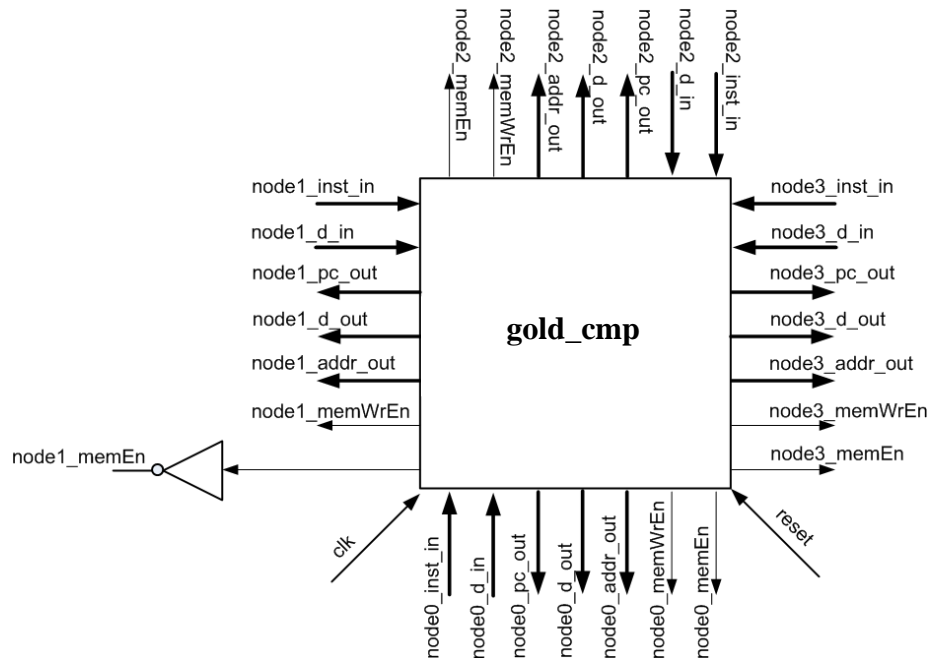

Figure 2: Erroneous Design for Logic Equivalence Verification
- (1) Perform an equivalence check between the RTL (.v) and gate level netlist (.syn.v). Use the final RTL and resulting netlist from the synthesis step. Follow the instructions in the tutorial for your multiprocessor design and save the result as "lec\_report1.txt". If you are unable to attain a positive equivalence result, describe the steps you took to debug your design. Create a file "lec\_report1\_summary.txt" that contains this description. If you attain a positive equivalence result, the file can be empty.
- (2) To see what happens when designs are not equivalent, perform an experiment to manually edit a copied version of the netlist to force it to be erroneous. Edit the synthesized netlist to manually attach an inverter to the *node0\_memEn* output. To add an inverter, you need to declare a wire, say *n240* (or some other name that doesn't already exist in the netlist), to replace the original *node0\_memEn* output and move *node0\_memEn* to the output of that inverter (see Figure 2). Now run Cadence Conformal with the RTL and this erroneous netlist. In this case, the tool will report a non-equivalent result. Save the result as "lec\_report2.txt".